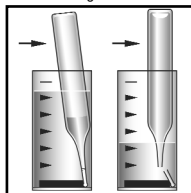

Figure 3
3. Immediately place the Vacu-vial ampoule, tip first, into the sample cup. Snap the tip. The ampoule will fill leaving a bubble for mixing (fig 3).